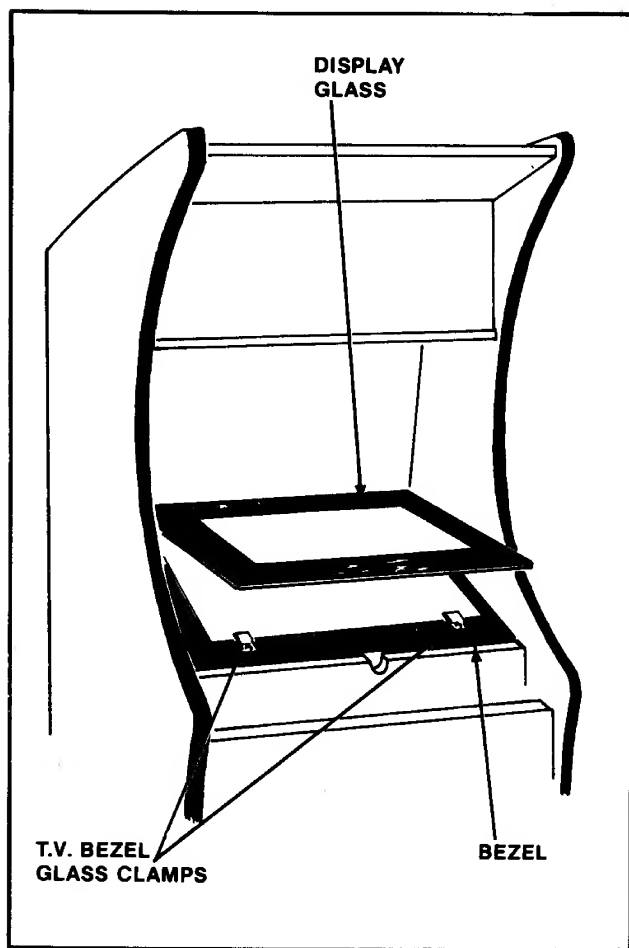

Figure 4-5 Removing Main Display Glass & T.V. Bezel
1. UPRIGHT MODEL: See Figure 4-5.